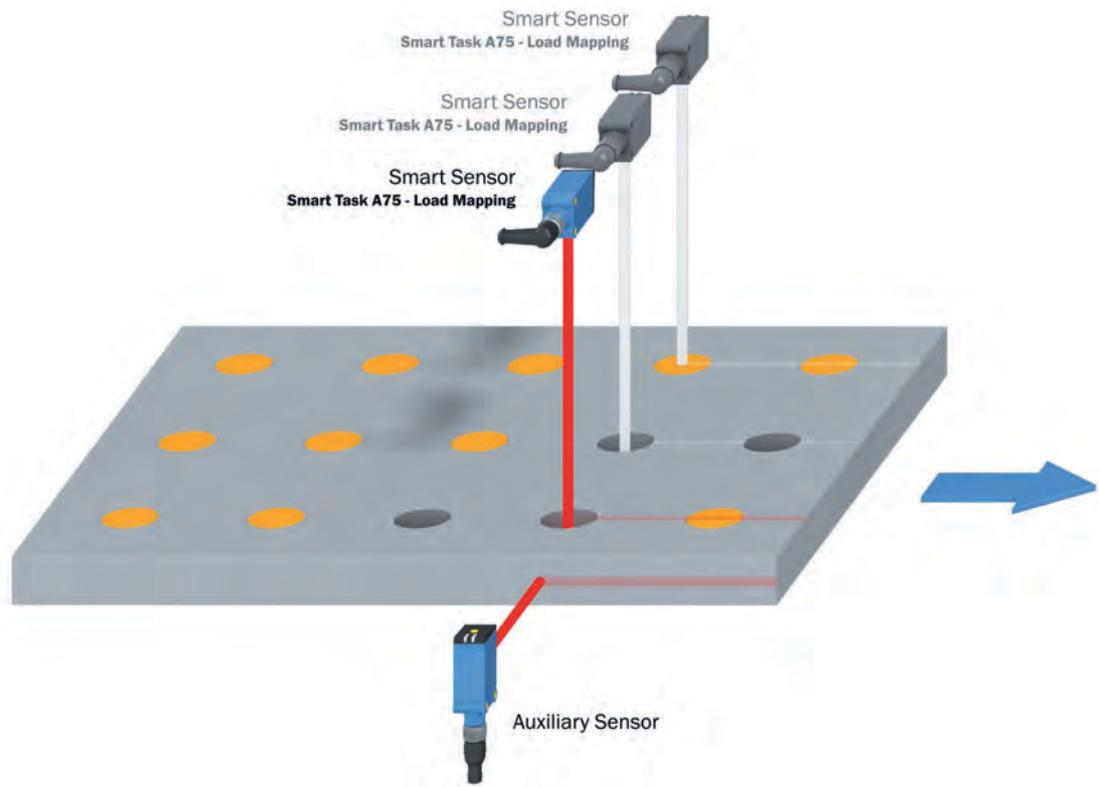

Figure 14: Workpiece carrier for Inverse object detection, width
- If the A75 Smart Sensor, due to its detection principle, is NOT able to differentiate between the objects in the workpiece carrier from the workpiece itself, for example because they are sunk into the surface of the workpiece carrier, the **Inverse object detection** mode must be applied. The prerequisite for this is that, with the absence of each individual object in the workpiece carrier, a single gap is created which the A75 Smart Sensor can differentiate from the workpiece carrier, see figure 14, page 57. In this operating mode, Qint.1 must deliver a HIGH signal when the workpiece carrier or an object is detected. For an empty object position, the A75 Smart Sensor must be LOW on Qint.1.